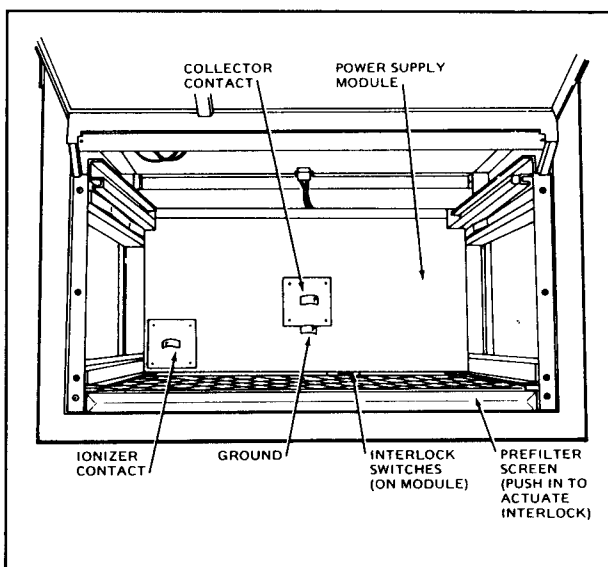

FIGURE 10 - MEASURING CELL INPUT VOLTAGE
- Using a voltmeter, measure the voltage from the collector contact to ground. See Figure 10.
- Using a voltmeter, measure the voltage from the ionizer contact to ground. See Figure 10.
- Remove power supply module from the air cleaner. See Figure 10 and 15.
NOTE: THE POWER SUPPLY MODULE CAN BE REMOVED THROUGH THE CELL ACCESS DOOR, IF THE PRE/POST FILTER AND THE CELLS ARE REMOVED FIRST. SEE FIGURE 10 AND 15.